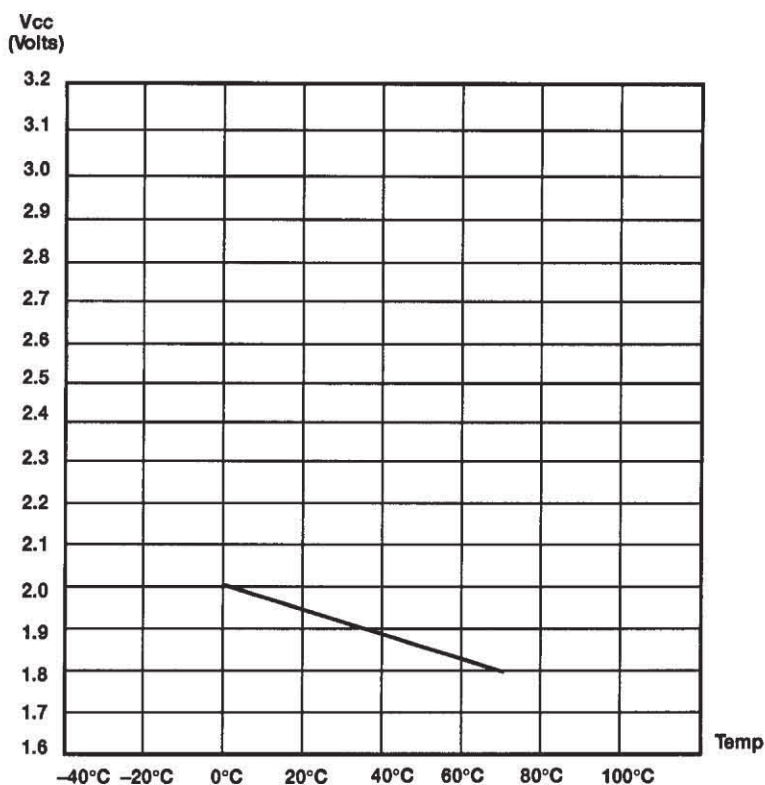

Figure 17. Typical Auto Reset Voltage ( $V_{LV}$ ) vs. Temperature
**Auto Reset Voltage ( $V_{LV}$ ).** The Z8 has an auto-reset built-in. The auto-reset circuit resets the Z8 when it detects the  $V_{CC}$  below  $V_{LV}$ . Figure 17 shows the Auto Reset Voltage versus temperature.